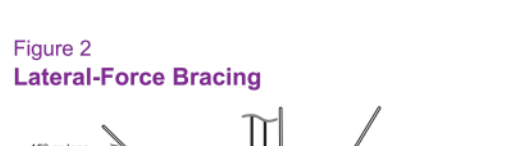

Figure 3
- The vertical strut** may be EMT conduit, metal studs or a proprietary compression post (see Figure 3).